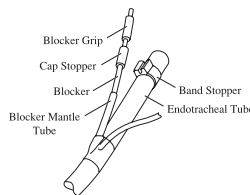

Fig.6
- Move the cap stopper and rotate (if necessary) and mount it on to the blocker mantle tube (Fig.6).